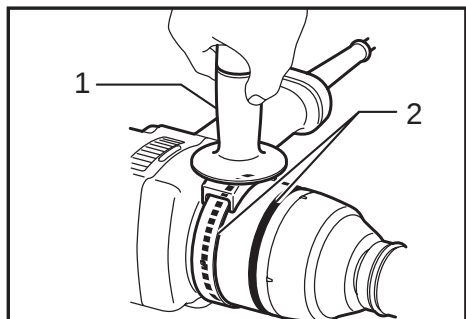

Fig.2
► **Fig.2:** 1. Side grip 2. Groove